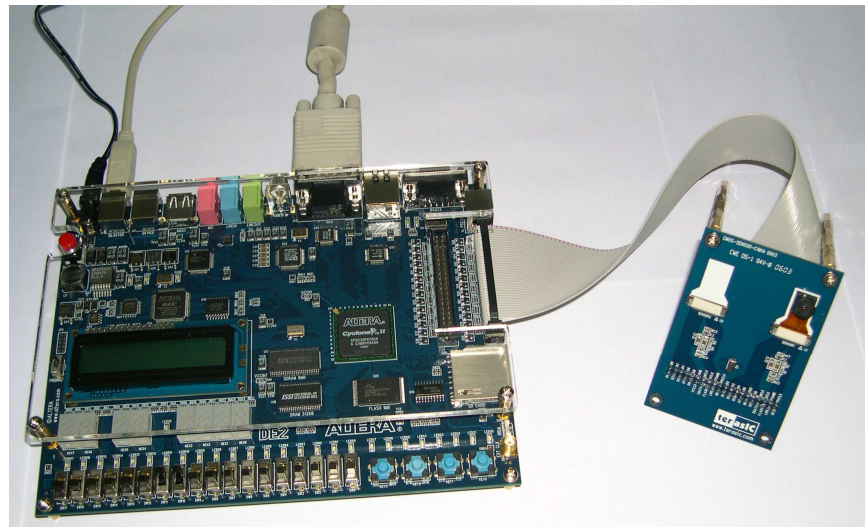

Figure 3.2. The Connection Setup for DE2 users
1. Ensure the connection is made correctly as shown in Figure 3.2. Make sure the IDE cable is connected to **JP2** of the DE2 board.
1. Ensure the connection is made correctly as shown in Figure 3.2. Make sure the IDE cable is connected to **JP2** of the TR1 board and the CMOS sensor module is connected to the U2 connector.